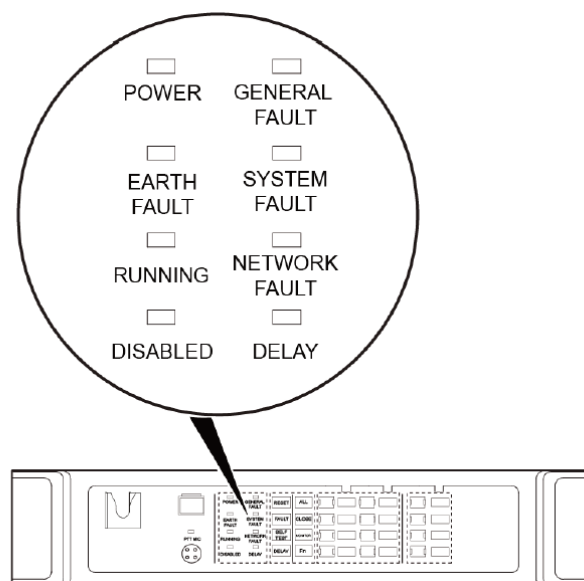

Figure 3 Schematic Diagram of the ZS-2000M Special State Indicator Lights
- 4.- **Device state indicator lights:** figure 3 shows the schematic diagram of the ZS-2000M device state indicator lights. Refer to Table 2 for relevant descriptions.